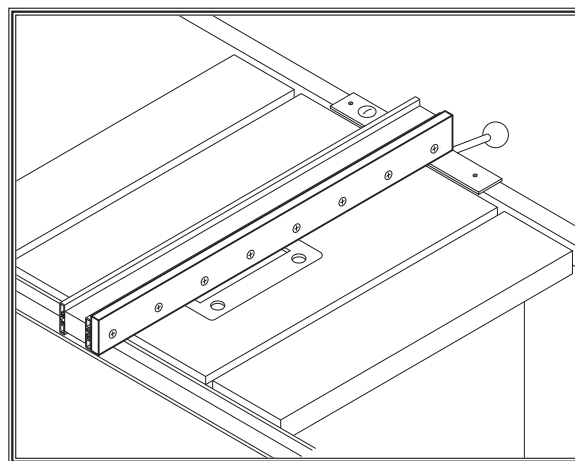

Figure 35. Auxiliary fence.
4. Thread the flat head screws through the auxiliary fence and into the hex nuts in the standard fence, and tighten securely as shown in **Figure 35**.